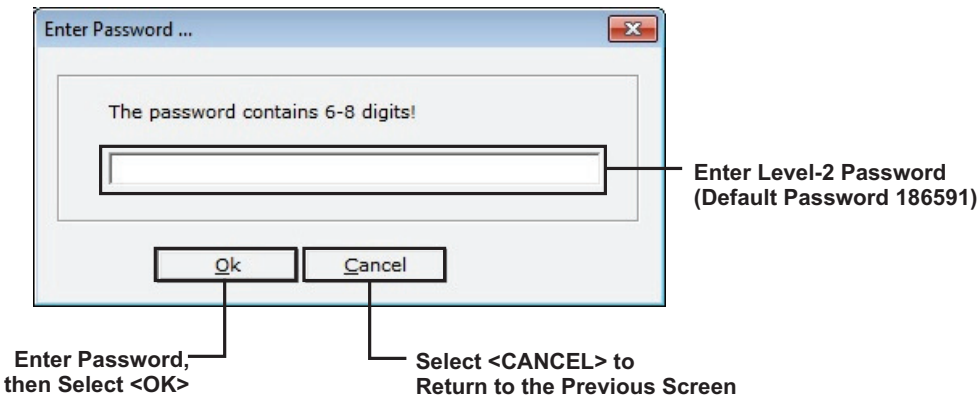

Figure 4-26. Enter Password
2. Select either the “All” or “Range” radio button. If “Range” is selected, enter the range of dates to receive. Select **<OK>**. In response, the prompt for a password (Figure 4-26) is displayed.